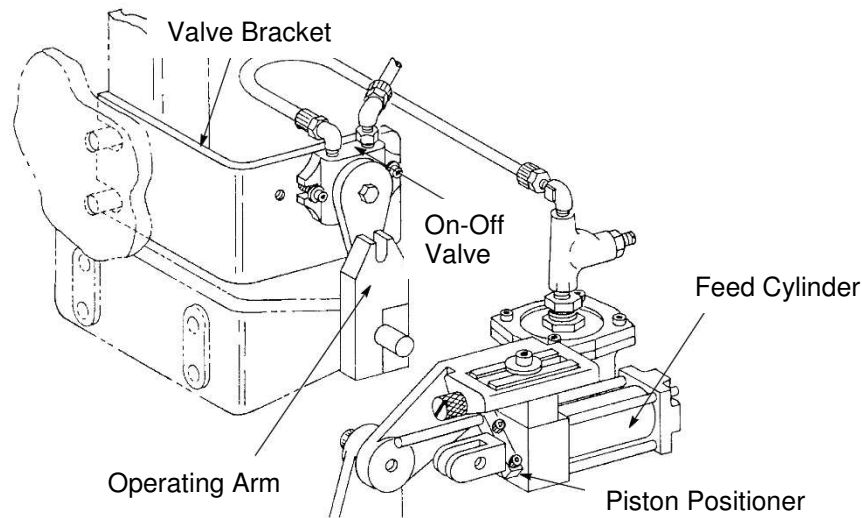

Figure 4
- (1) Loosen screw on top of pivot block.
- (2) Turn stroke forward limit adjustment screw **COUNTERCLOCKWISE** to move forward limit toward anvil, or **CLOCKWISE** to move forward limit away from anvil.
- (3) Tighten screw on top of pivot block.
b. Applicator with air feed systems (see Figure 4)
- (1) Loosen 3/4-in. hex nut slightly to allow pivot shaft to move in slot.
- (2) Loosen locknut on stroke length adjustment screw, and turn screw **CLOCKWISE** to **SHORTEN** stroke or **COUNTERCLOCKWISE** to **LENGTHEN** stroke. Tighten locknut.
- (3) Confirm that pivot shaft bushing is **UP AGAINST** stroke length adjustment screw, then tighten 3/4-in. hex nut. Repeat Step 5 to check for proper stroke length.
- b. Applicator with air feed systems (reference Figure 4)
- (1) With machine at rest and feed finger extended, loosen two screws holding positioner to feed cylinder shaft and move positioner in required direction on shaft.
- (2) Re-tighten screws.
- (3) Repeat Step 5 to check stroke length.